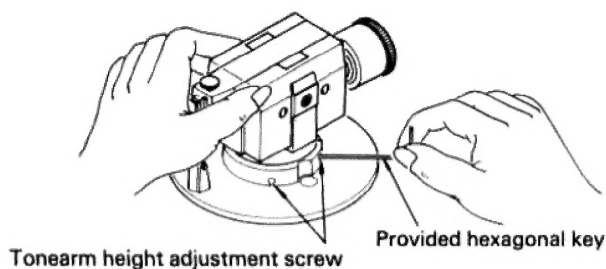
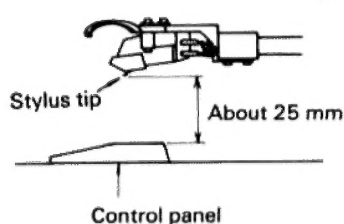

Fig. 2
Fig. 3
1. With the arm clamped to the rest, loosen the tonearm height adjustment screws with a provided hexagonal key as shown. Then, adjust the arm height by moving the arm up and down so that the stylus tip is about 25 mm up from the control panel. (See Fig. 3.) After adjustment, securely tighten the adjustment screws. (See Fig. 2.)